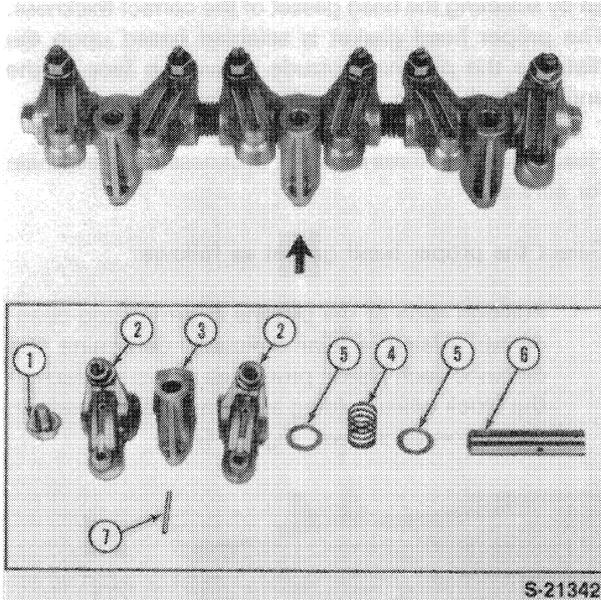

Figure 43
1. Remove the bolts (1) at each end of the rocker arm shaft (6) and remove the rocker arm (2), pedestal (3), spring (4) and shims (5), Figure 43.
- Remove the roll pin (7) in the front pedestal and shaft and remove the pedestal from the shaft.
Assemble the rocker shaft components on the shaft in the order as shown, Figure 43. On assembly observe the following requirements.